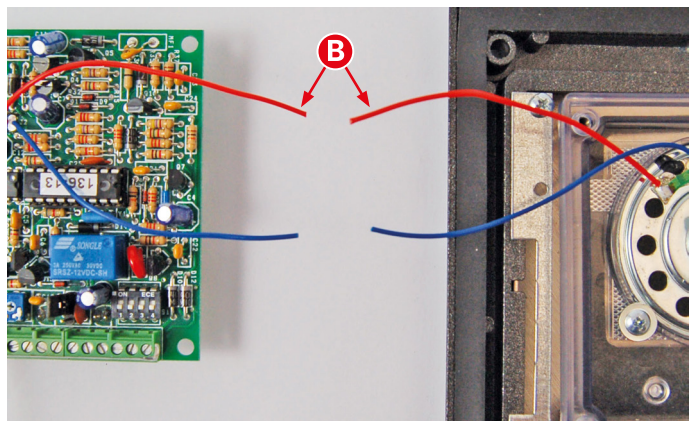

Fig. 22
4. Remove the main speaker pcb from the front speaker plastics, then take a pair of wire cutters and cut the **red** and **blue** speaker wires (approx. halfway across), as shown in **Fig.22, B**.